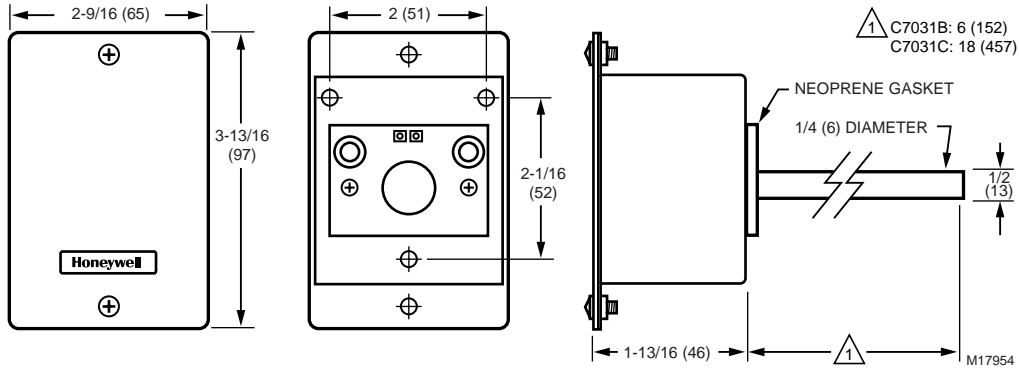

Fig. 1. C7031B,C dimensions in in. (mm).
Dimensions: See Fig. 1 through 5.
1. Use the dimensions in Fig. 1 or use the device itself to mark the location for the three mounting holes.